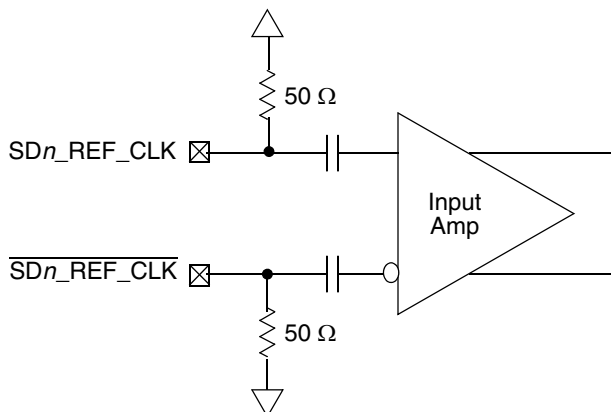

Figure 52. Receiver of SerDes Reference Clocks
Figure 52 shows a receiver reference diagram of the SerDes reference clocks.
- The $\overline{SDn_REF_CLK}$ and SDn_REF_CLK are internally AC-coupled differential inputs as shown in Figure 52. Each differential clock input ($\overline{SDn_REF_CLK}$ or SDn_REF_CLK) has a 50 Ω termination to SGND_SRDSn (xcorevss) followed by on-chip AC-coupling.